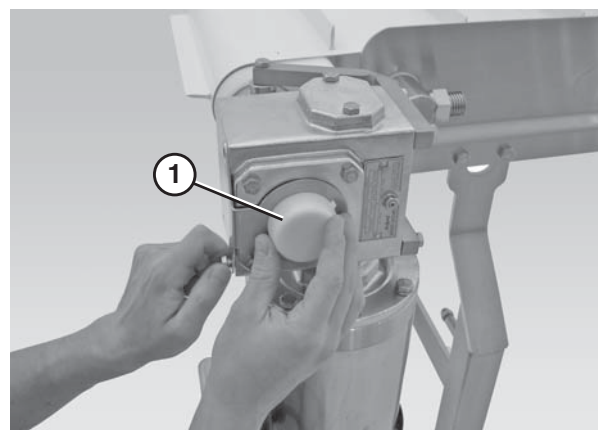

Figure 25
3. Remove the gearmotor cover (Figure 25, item 1).